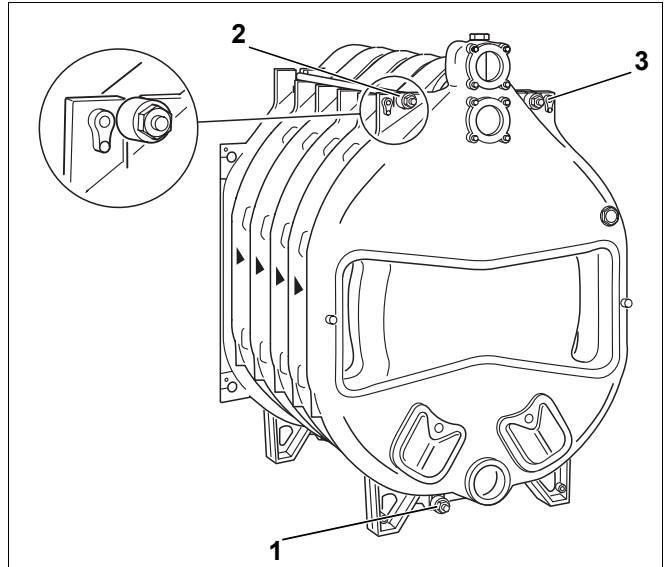

Fig. 17 Installation of the tie bars
- Insert the three tie bars with the spring sets mounted into the locations provided in the cast profiles (Fig. 17, **Item 1, 2 & 3**).